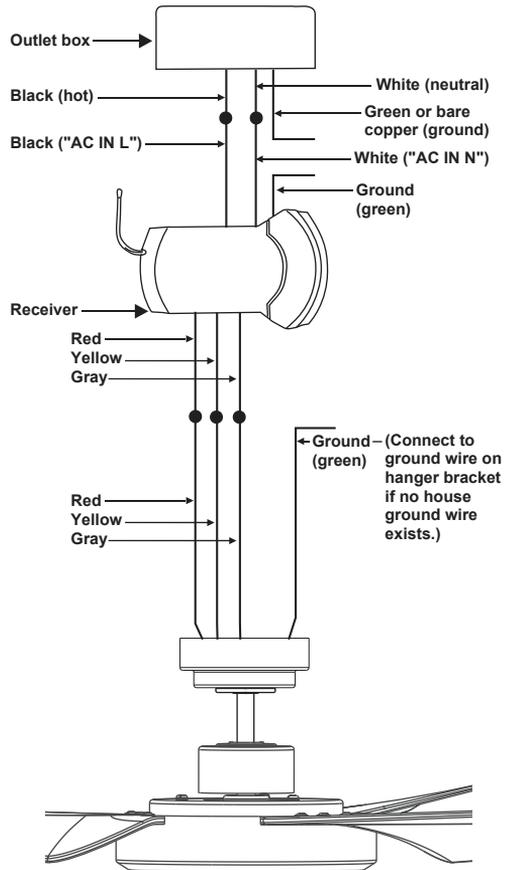

Figure 11
Step 2. (Fig. 11) Motor to Receiver Electrical Connections: Connect the Red wire from the fan to Red wire from the receiver. Connect the Yellow wire from the fan to the Yellow wire from the receiver. Connect the Gray wire from the fan to the Gray wire from the receiver. Secure wire connections with the plastic wire nuts provided.
Step 3. (Fig. 11) Receiver to House Supply Wires Electrical Connections: Connect the Black (hot) wire from the ceiling to the black wire marked "AC in L" from the receiver. Connect the white (neutral) wire from the ceiling to the white wire marked "AC in N" from the Receiver. Secure the wire connections with the plastic wire nuts provided.
Step 4. (Figure 11) If your outlet box has a ground wire (green or bare copper) connect it to the fan ground wires and the receiver ground wire; otherwise connect the hanging bracket ground wire to the fan and the receiver ground wire. Secure the wire connection with a plastic nut provided. After connecting the wires, spread them apart so that the green and white wires are on one side of the outlet box and other wires are on the other side. Carefully tuck the wire connections up into the outlet box.